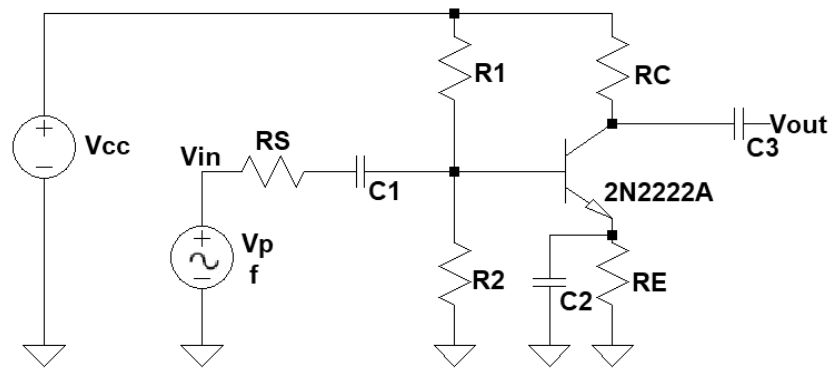

Figure 3 AC circuit for common emitter amplifier
1. Connect the circuit as shown in Figure3.